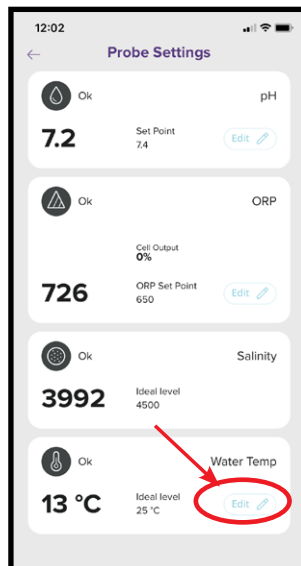

Figure 10.1
- With the heater already on, press the button for “Water Temp” “Edit” (refer Figure 10.1).